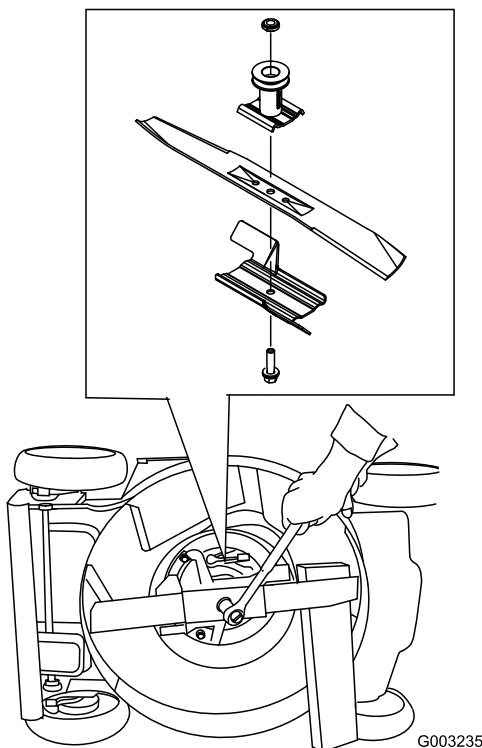

Figure 33
3. Use a block of wood to hold the blade steady (Figure 33).